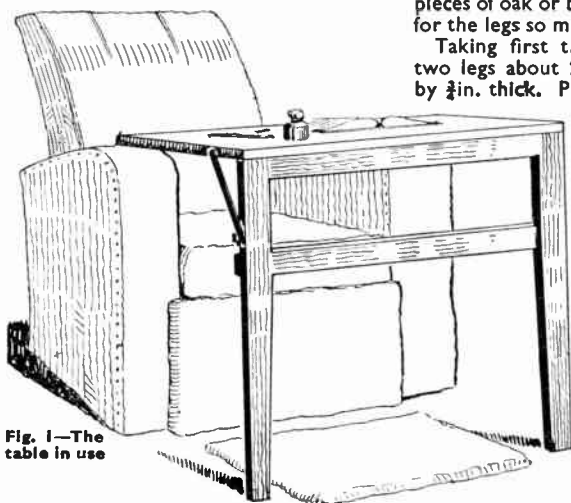

Fig. 1—The table in use
**H**ERE is the real luxury work-table, one that can be used in the winter evenings near the fire. The student and craftsman would find one of these most useful, and when work is done, the two halves or leaves of the table fold together compact and convenient. The table is light in weight and in construction, being made of two frames hinged together and stood upon the easy chair, as our illustration, Fig. 1.